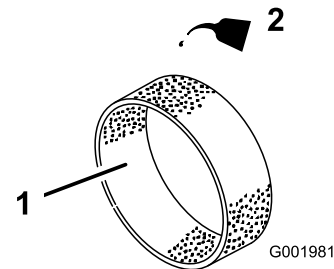

Figure 47
4. Put one or two ounces of oil on the element (Figure 47).